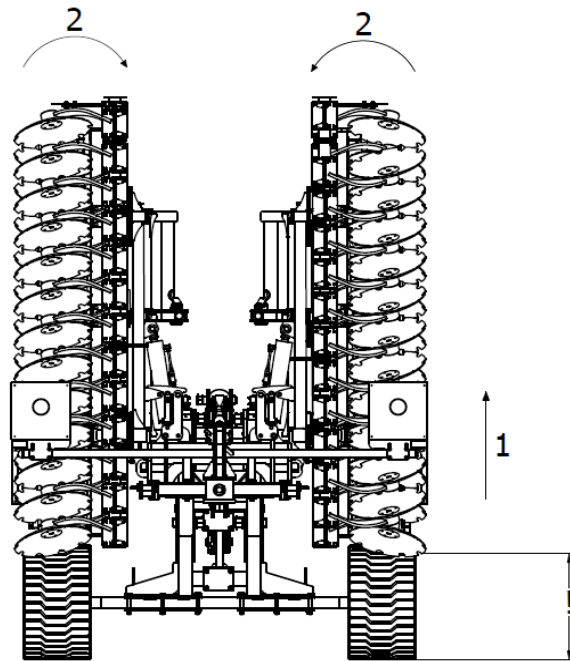

Fig. 6 Implement opening sequence: 1- raise the implement up to the maximum, 2- fold the side extensions into the “closed” position.
1. First, raise the implement as much as possible to be able to fold it correctly, avoiding the risk of the folding arms catching on the ground during movement (Fig. 6).
2. Next, fold the implement side extensions hydraulically into the 'closed' position to ensure that the side extension lock mechanism will unlock and allow the implement arms to be opened at a later stage. This operation is necessary each time the arms are opened (Fig. 6).